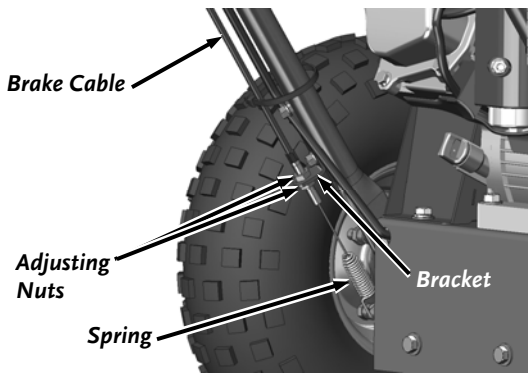

Figure 54
1. Loosen the lower nut a few turns so it moves away from the Bracket (**Figure 54**).